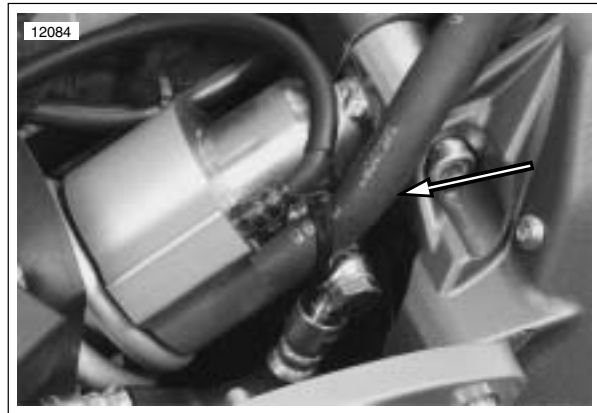

Figure 3-39. Transmission Vent Line
6. See Figure 3-39. Route transmission vent line up through left side of frame exiting under the left rear side of the intake cover assembly. Install cable strap to secure transmission vent line in place. Inspect vent line to verify space between vent line and rear exhaust.